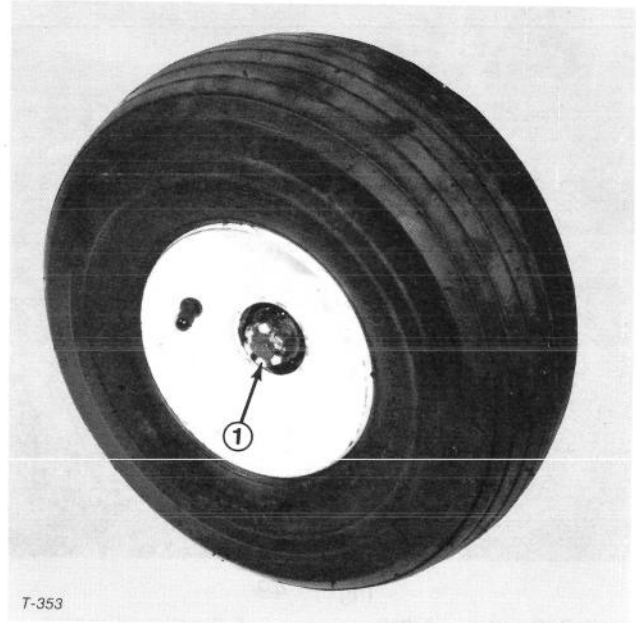

Figure 52
2. Remove dust cap from end of wheel spindle. Also remove cotter pin retaining slotted nut in place (Fig. 52).